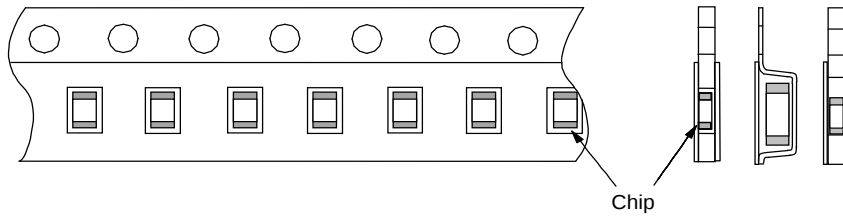

Fig.2 Dimensions of Reel
| 18                 | Board Flex                                                              | Appearance                                                                                                                                                                                                                                                                       | No marking defects   |                                                                                                                                                                                                                                                                                                                                                                                                                                       | <p>Solder the capacitor on the test jig (glass epoxy board) shown in Fig1 using a eutectic solder. Then apply a force in the direction shown in Fig 2 for 5±1sec. The soldering should be done by the reflow method and should be conducted with care so that the soldering is uniform and free of defects such as heat shock.</p> <table><tr><th>Type</th><th>a</th><th>b</th><th>c</th></tr><tr><td>GCM03</td><td>0.3</td><td>0.9</td><td>0.3</td></tr><tr><td>GCM15</td><td>0.5</td><td>1.5</td><td>0.6</td></tr><tr><td>GCM18</td><td>0.6</td><td>2.2</td><td>0.9</td></tr><tr><td>GCM21</td><td>0.8</td><td>3.0</td><td>1.3</td></tr><tr><td>GCM31</td><td>2.0</td><td>4.4</td><td>1.7</td></tr><tr><td>GCM32</td><td>2.0</td><td>4.4</td><td>2.6</td></tr></table> <p>(in mm)</p>  <p>Fig. 1</p> <p>t : 1.6mm(GCM03/15:0.8mm)</p>  <p>Fig. 2</p> | Type | a | b | c | GCM03 | 0.3 | 0.9 | 0.3 | GCM15 | 0.5 | 1.5 | 0.6 | GCM18 | 0.6 | 2.2 | 0.9 | GCM21 | 0.8 | 3.0 | 1.3  | GCM31 | 2.0 | 4.4 | 1.7 | GCM32 | 2.0 | 4.4 | 2.6 |
1.11 Reel is made by resin and appeaser and dimension is shown in Fig 2. There are possibly to change the material and dimension due to some impairment.